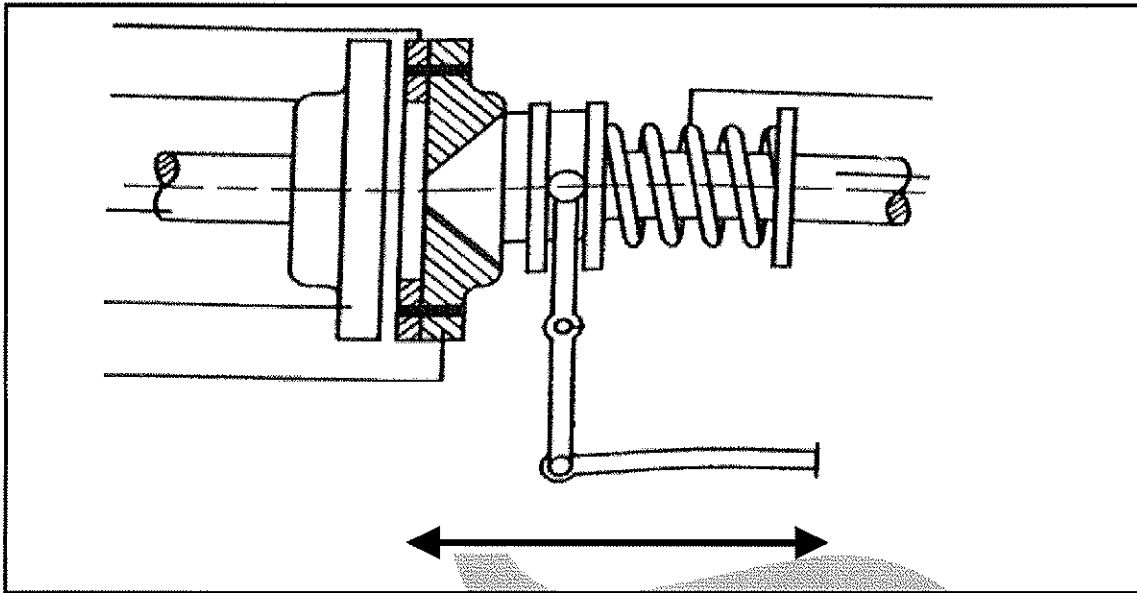

FIGURE 2
- 1.3 Refer to FIGURE 2 and label the clutch parts as indicated. Write only the part next to the letter (A–G) in the ANSWER BOOK.